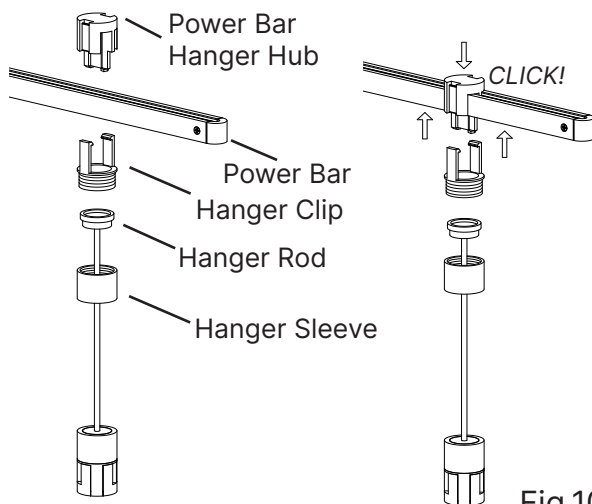

Fig. 10
1. Press down firmly on the top of the **Power Bar Hanger Hub** while pressing up on the bottom of the **Power Bar**, until the Power Bar Hanger Hub clicks into place (Fig. 10).